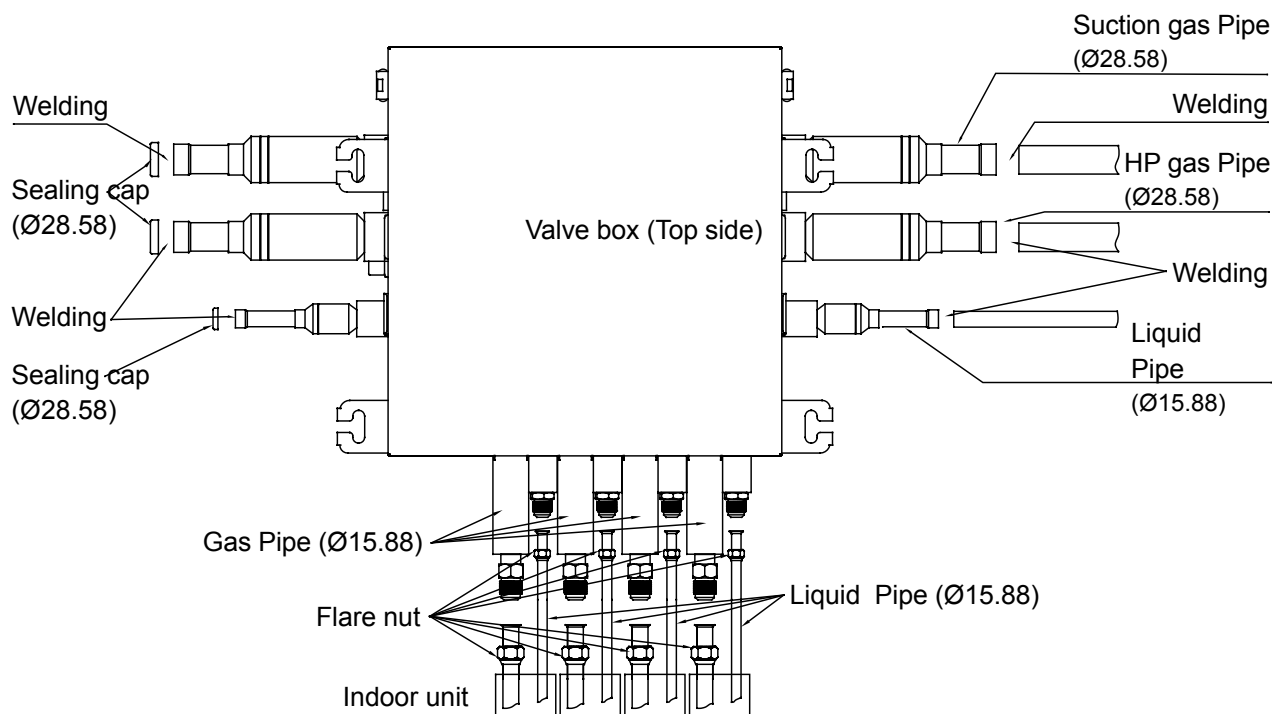

Fig.11
When a 072, 092 indoor unit is connected in the downstream, please use the auxiliary pipe ①-1,2 for connection according to Fig.11.
When a 122, 162, 182 indoor unit is connected in the downstream, please use the auxiliary pipe ①-1,3 for connection according to Fig.11.
When a High wall 0.8/1HP indoor unit is connected in the downstream, please use the auxiliary pipe ①-1,3 for connection according to Fig.11.